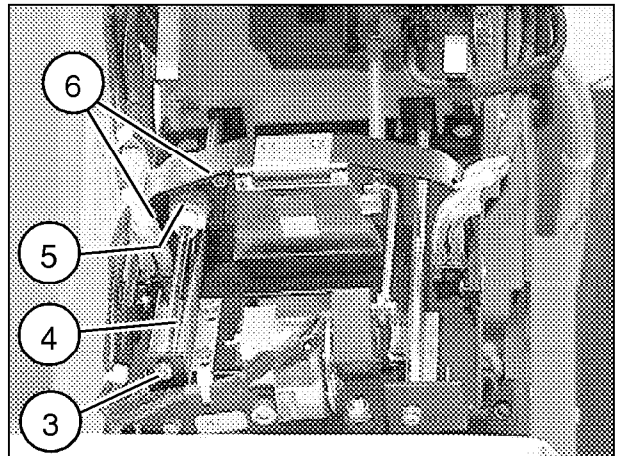

Fig. 6
- Remove the nut (3/Fig.6).
- Remove the motor (5/Fig.6) from the drive (4/Fig.6).
- Remove the 2 screws (6/Fig.6) and take out the old motor.